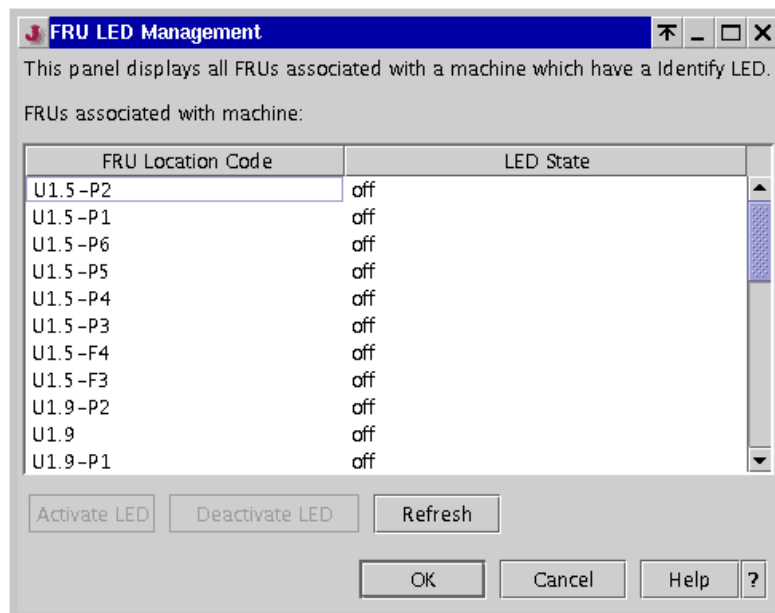

Figure 5-32 FRU LED Management
- You will see the FRU LED Management window (Figure 5-32).